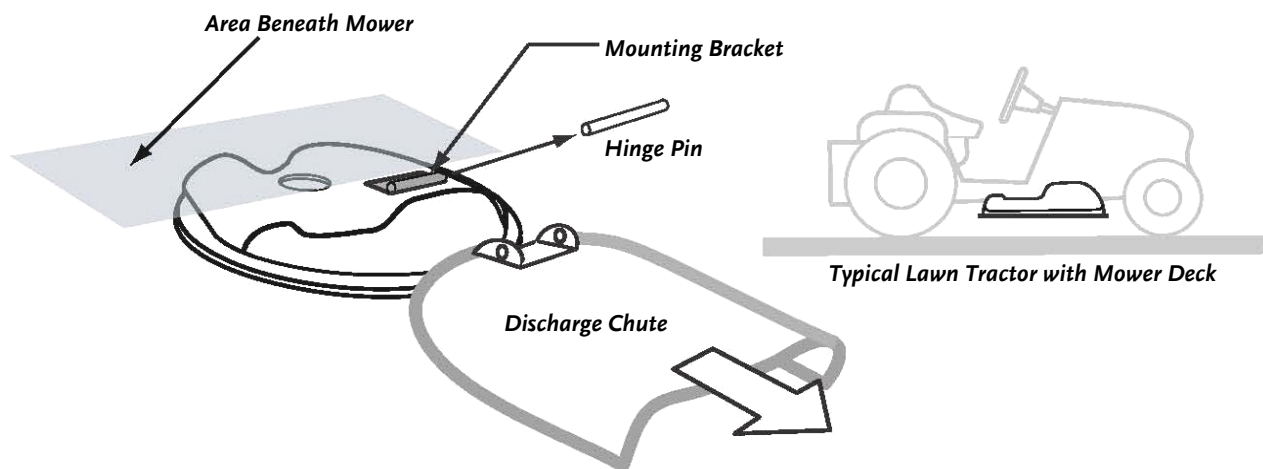

Figure 14
3. Remove the Hinge Pin from your Mower Deck Mounting Bracket (**Figure 14**) and remove the Discharge Chute, Springs, and related parts from your Mower Deck. Do not remove the Mounting Bracket. (See *Reference Line instruction below*). Save these parts for future use should you decide to return your Lawn Mower Deck to its original configuration.